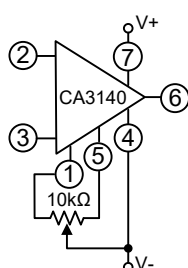
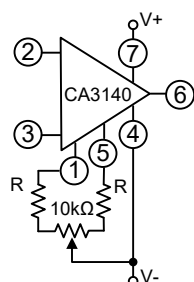

Figure 1A. BASIC
Figure 1B. IMPROVED RESOLUTION
The input offset voltage can be nulled by connecting a 10k Ω potentiometer between Terminals 1 and 5 and returning its wiper arm to terminal 4, see Figure 1A. This technique, however, gives more adjustment range than required and therefore, a considerable portion of the potentiometer rotation is not fully utilized. Typical values of series resistors (R) that may be placed at either end of the potentiometer, see Figure 1B, to optimize its utilization range are given in the Electrical Specifications table. An alternate system is shown in Figure 1C. This circuit uses only one additional resistor of approximately the value shown in the table. For potentiometers, in which the resistance does not drop to 0 Ω at either end of rotation, a value of resistance 10% lower than the values shown in the table should be used.